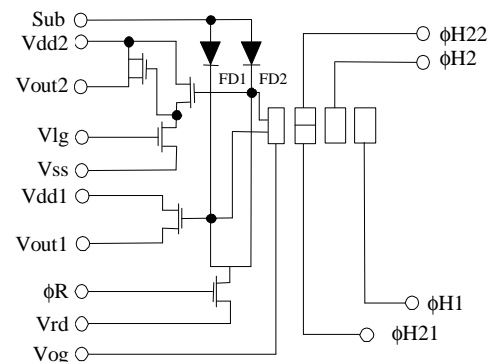

Figure 2 - Output Structure
- Figure 2 - Output Structure 4